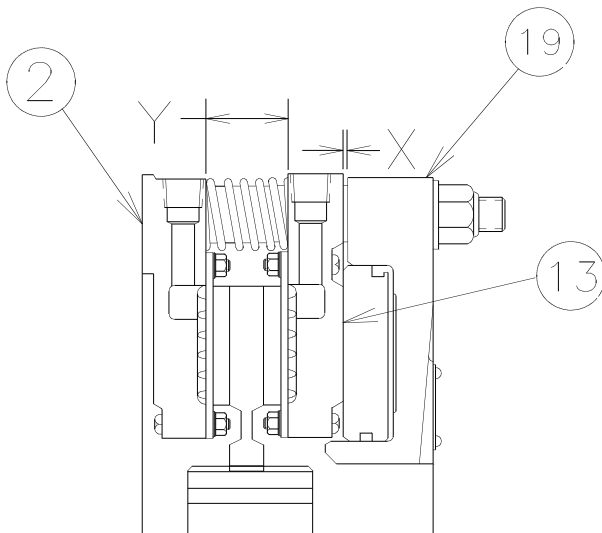

Figure 6 : 136WCB2EP - "X" & "Y" gap locations for single disc
Apply approximately 25 psig (1.7 bar) air pressure to the cylinder to engage the tensioner. Measure the "X" gap between the cylinder (19) and the pressure plate (13) or the gap "Y" between the pressure plate (13) and the mounting flange (2) as shown in **Figure 6**. If either gap exceeds the limits shown in Table 10, the friction discs and/or wear plates must be inspected to ensure that the wear limits listed in Table 13 have not been exceeded.
TABLE 10 Wear Measurements X, Y, &amp; Z Gaps - Inches (mm) Refer to Figs 6, 7, 8 &amp; 9